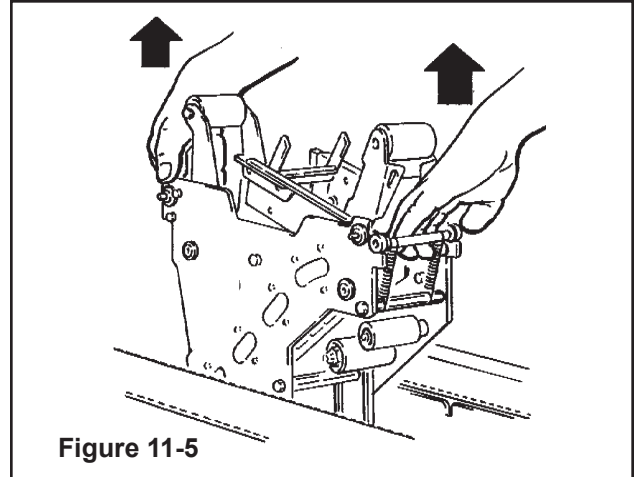

Figure 11-5
5. Lift the lower taping head straight up to remove it from the case sealer bed (**Figure 11-5**).